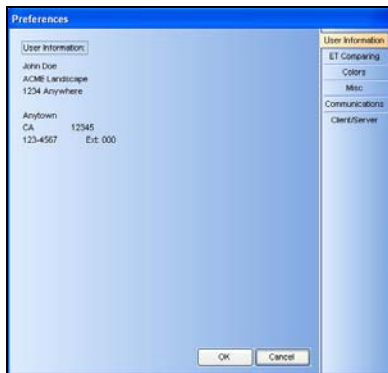

Figure 2.0.2
1. Click on the **User’s Information** tab (Figure 2.0.2).